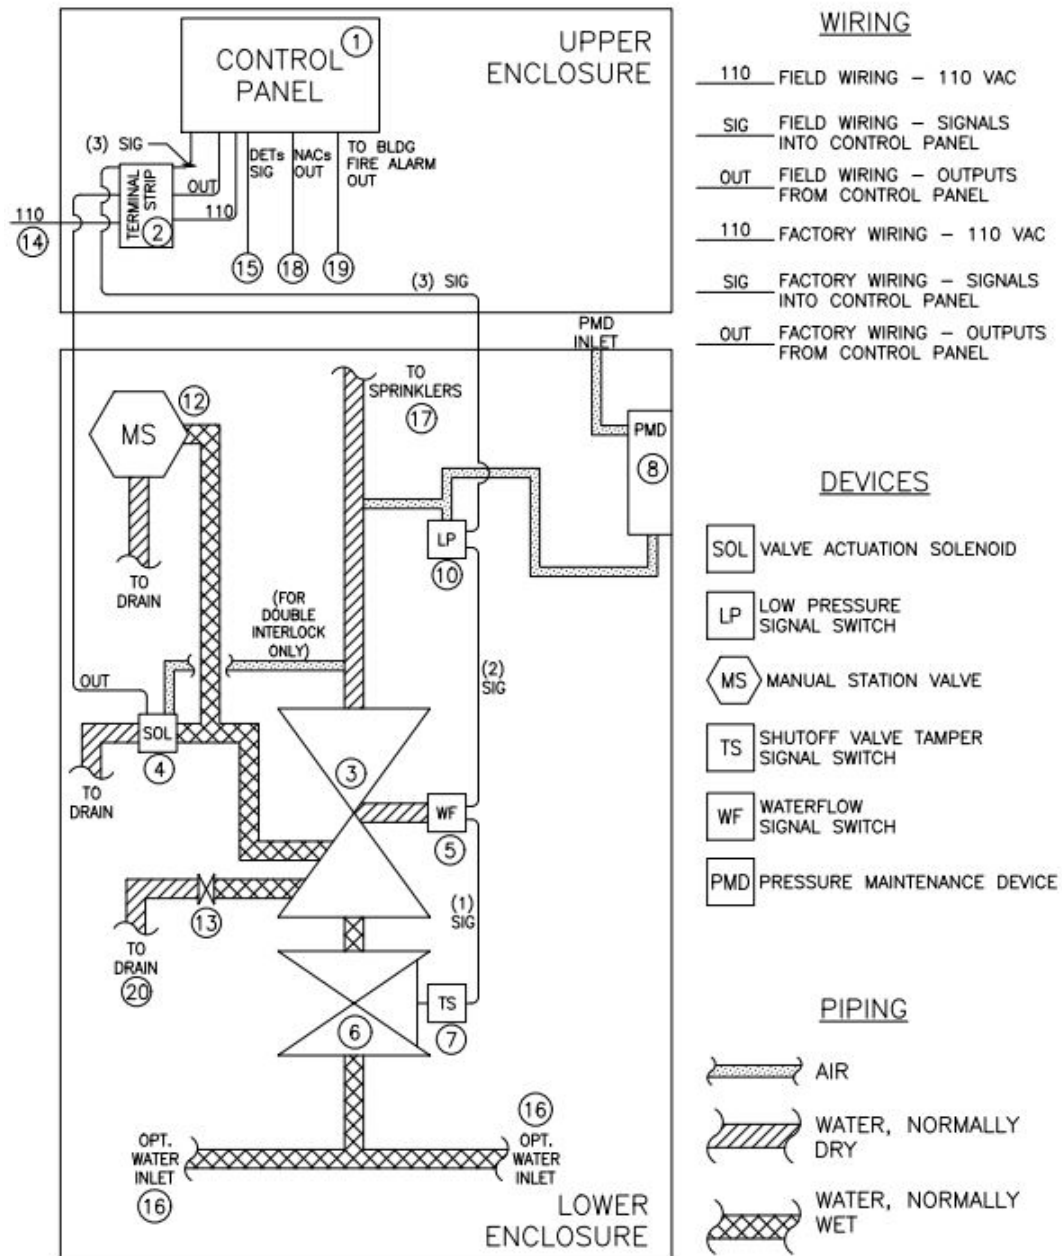

**Figure 3a – Diagram - Functional Description with Compressor**
**1.3. Functional Description.** Refer to Figure 3a on page 4 and Figure 3b on page 5.